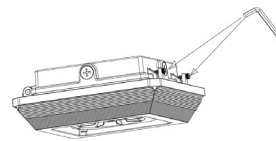

Fig.2-1
1. Open the driver box compartment by loosening the two allen screws on the side of the housing (Fig.2-1)